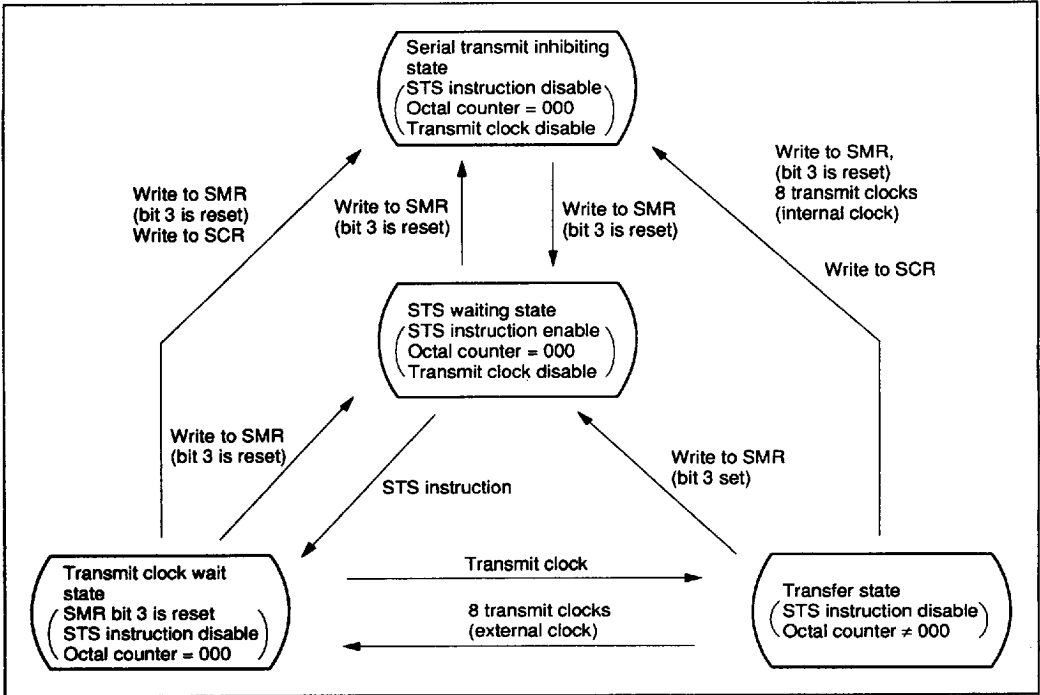

Figure 26 Serial Interface Operation State
**Operating State of the Serial Interface:** The serial interfaces provide four operation states (figure 26).